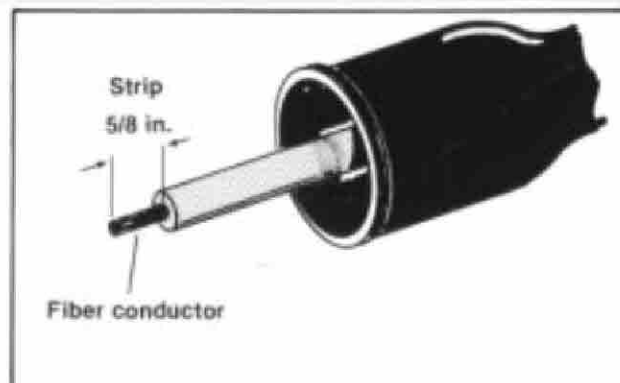

Figure 2. Properly stripped wire
4. See Figure 2. Strip away 5/8 in. of insulation from ends of wires with a crimping/stripping tool (Belden 726601 or equivalent) using a 10 or 12 gauge stripping hole.